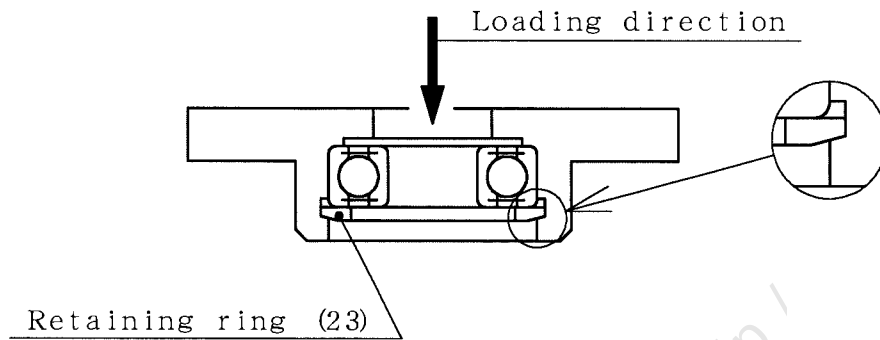

Fig. 14
The non-chamfered face contacts Ball bearing (22) (see Figure 14).